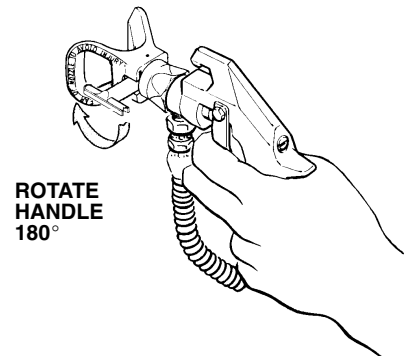

Fig 5
- If using a RAC IV Spray Tip Kit**, rotate the RAC IV handle 180°. See Fig 5. Disengage the gun safety latch. Trigger the gun into a grounded waste container. Engage the gun safety latch again. Return the handle to the original position.